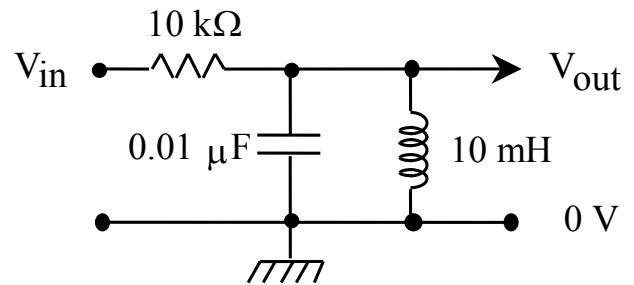

Figure 3.2
3. Derive the expression for the resonant frequency of the resonant circuit in Figure 3.2.
Calculate the resonant frequency f_0 , the characteristic impedance Z_0 , and the quality factor Q for the band-pass filter in Figure 3.2. Make a Bode plot showing the expected attenuation versus frequency and mark on it the two half power points f_+ and f_- . This plot is a bit harder to make since it is not just straight lines. You can plot some points near the resonance by hand or use a computer plotting program.